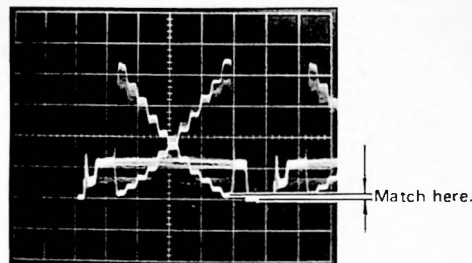

Fig. 4-4-31
- Next, adjust R. PED VR222 so that the pedestal level of R signal matches that of Y_L signal. (Fig. 4-4-31)